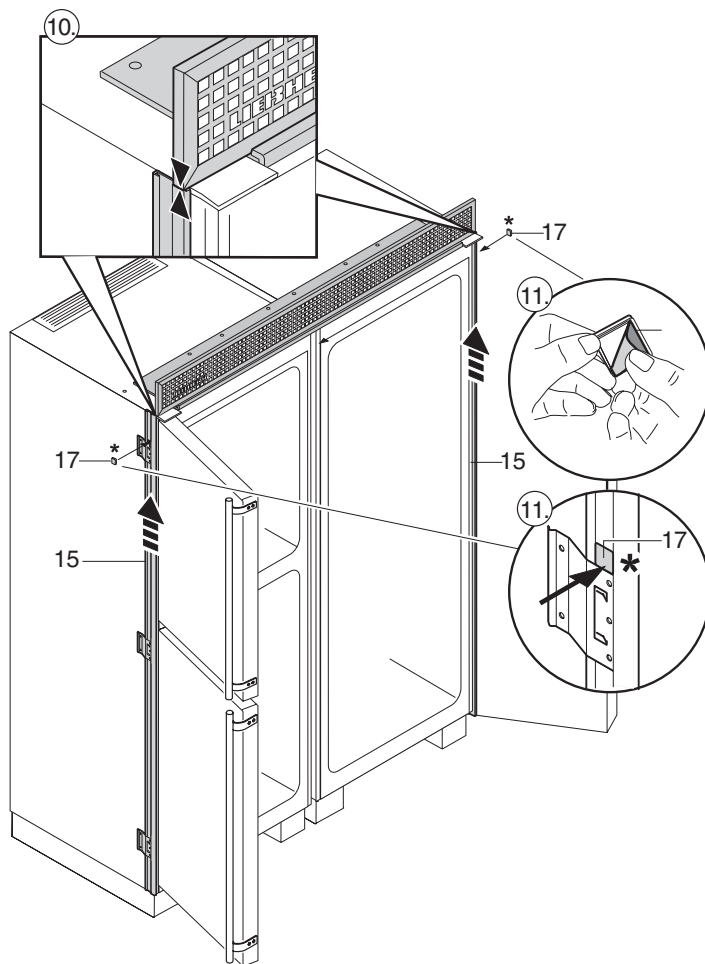
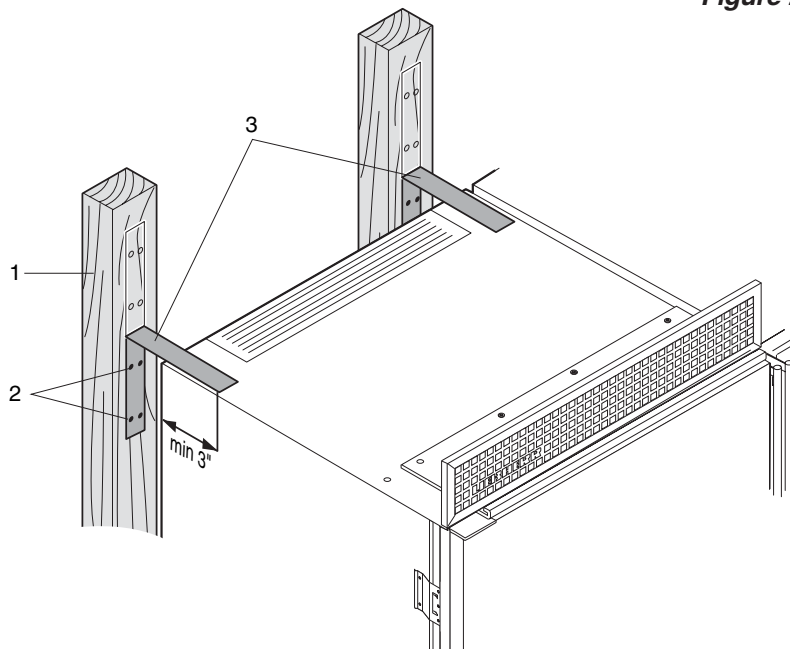

Figure 28
Figure 29
10. **Figure 28:** Slide the side installation frames (15) upwards until they are in contact with the underside of the ventilation grille.
11. Secure the side frames with the adhesive section (17) to prevent them from sliding down. Remove the protective film and affix the adhesive sections over the upper brackets.
12. **Figure 29:** Install the anti-tip brackets for each appliance. Refer To "Blocking for Safety."